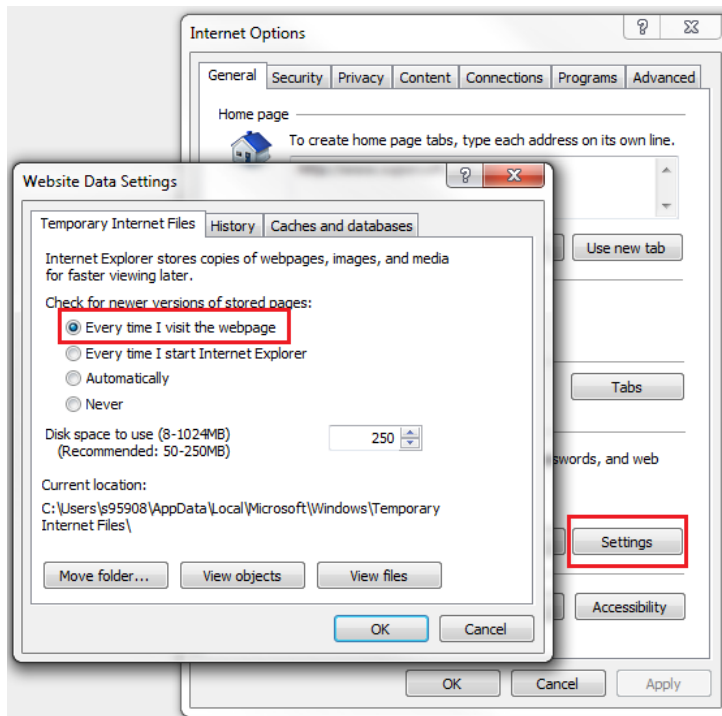

Figure 3-19 Select Connection tab
Double-click the IE icon to run the software, click on the menu Tools -> Internet Options, click on Settings (S) General tab will check for newer versions of stored pages select Every visit to the page (E) examination, as shown in Figure 3-19.